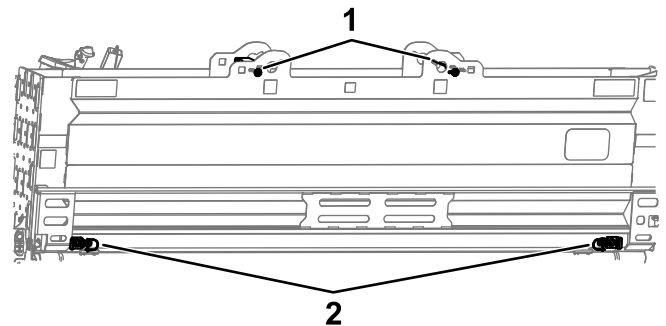

Figure 52
2. Ensure that the upper pipe box straps and lower pipe box pins are installed (Figure 52).